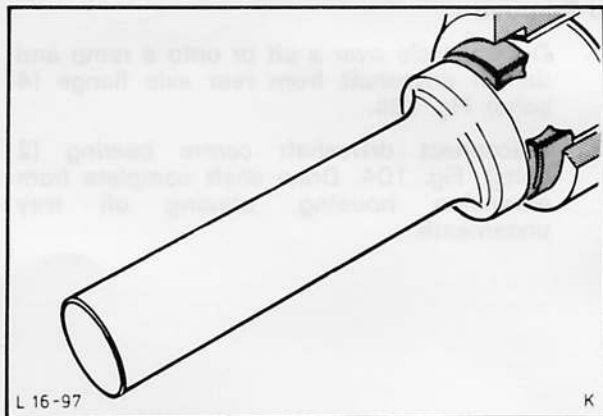

Fig. 108. Fit oil seal with Special Tool No. 16-015/16-016
6. Fit new oil seal in extension housing using Special Tool No. 16-015/16-016, Fig. 108.